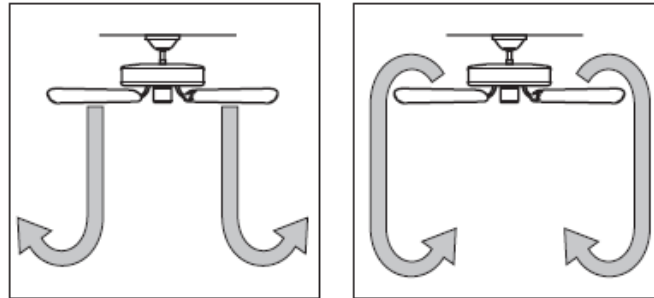

Figure 20 – Air Flow Patterns
3. Ceiling Fans work best by blowing air downward (counter clockwise blade rotation) in warm weather to cool the room with a direct breeze. In winter, having the fan draw air upward (clock-wise blade rotation) will distribute the warmer air trapped at the ceiling around the room without causing a draft. Refer to Figure 20.